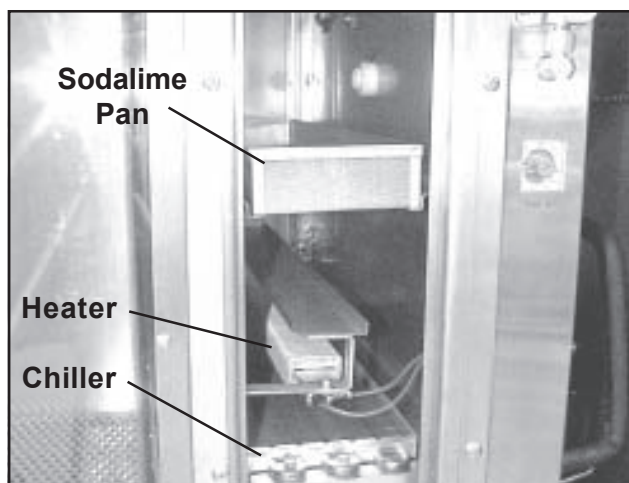

Figure 49. Heater, Chiller, and Sodalime Pan
2. Lift out the Sodalime pan (Figure 49).